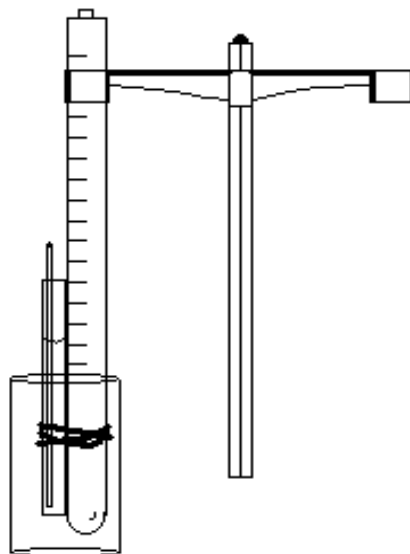

Figure 3
9. Place the microretort stand in well D12 and submerge the thermometer and fusion tube halfway into the oil (see figure 3).
11. Place the open end of the capillary tube into the fusion tube (see figure 3).